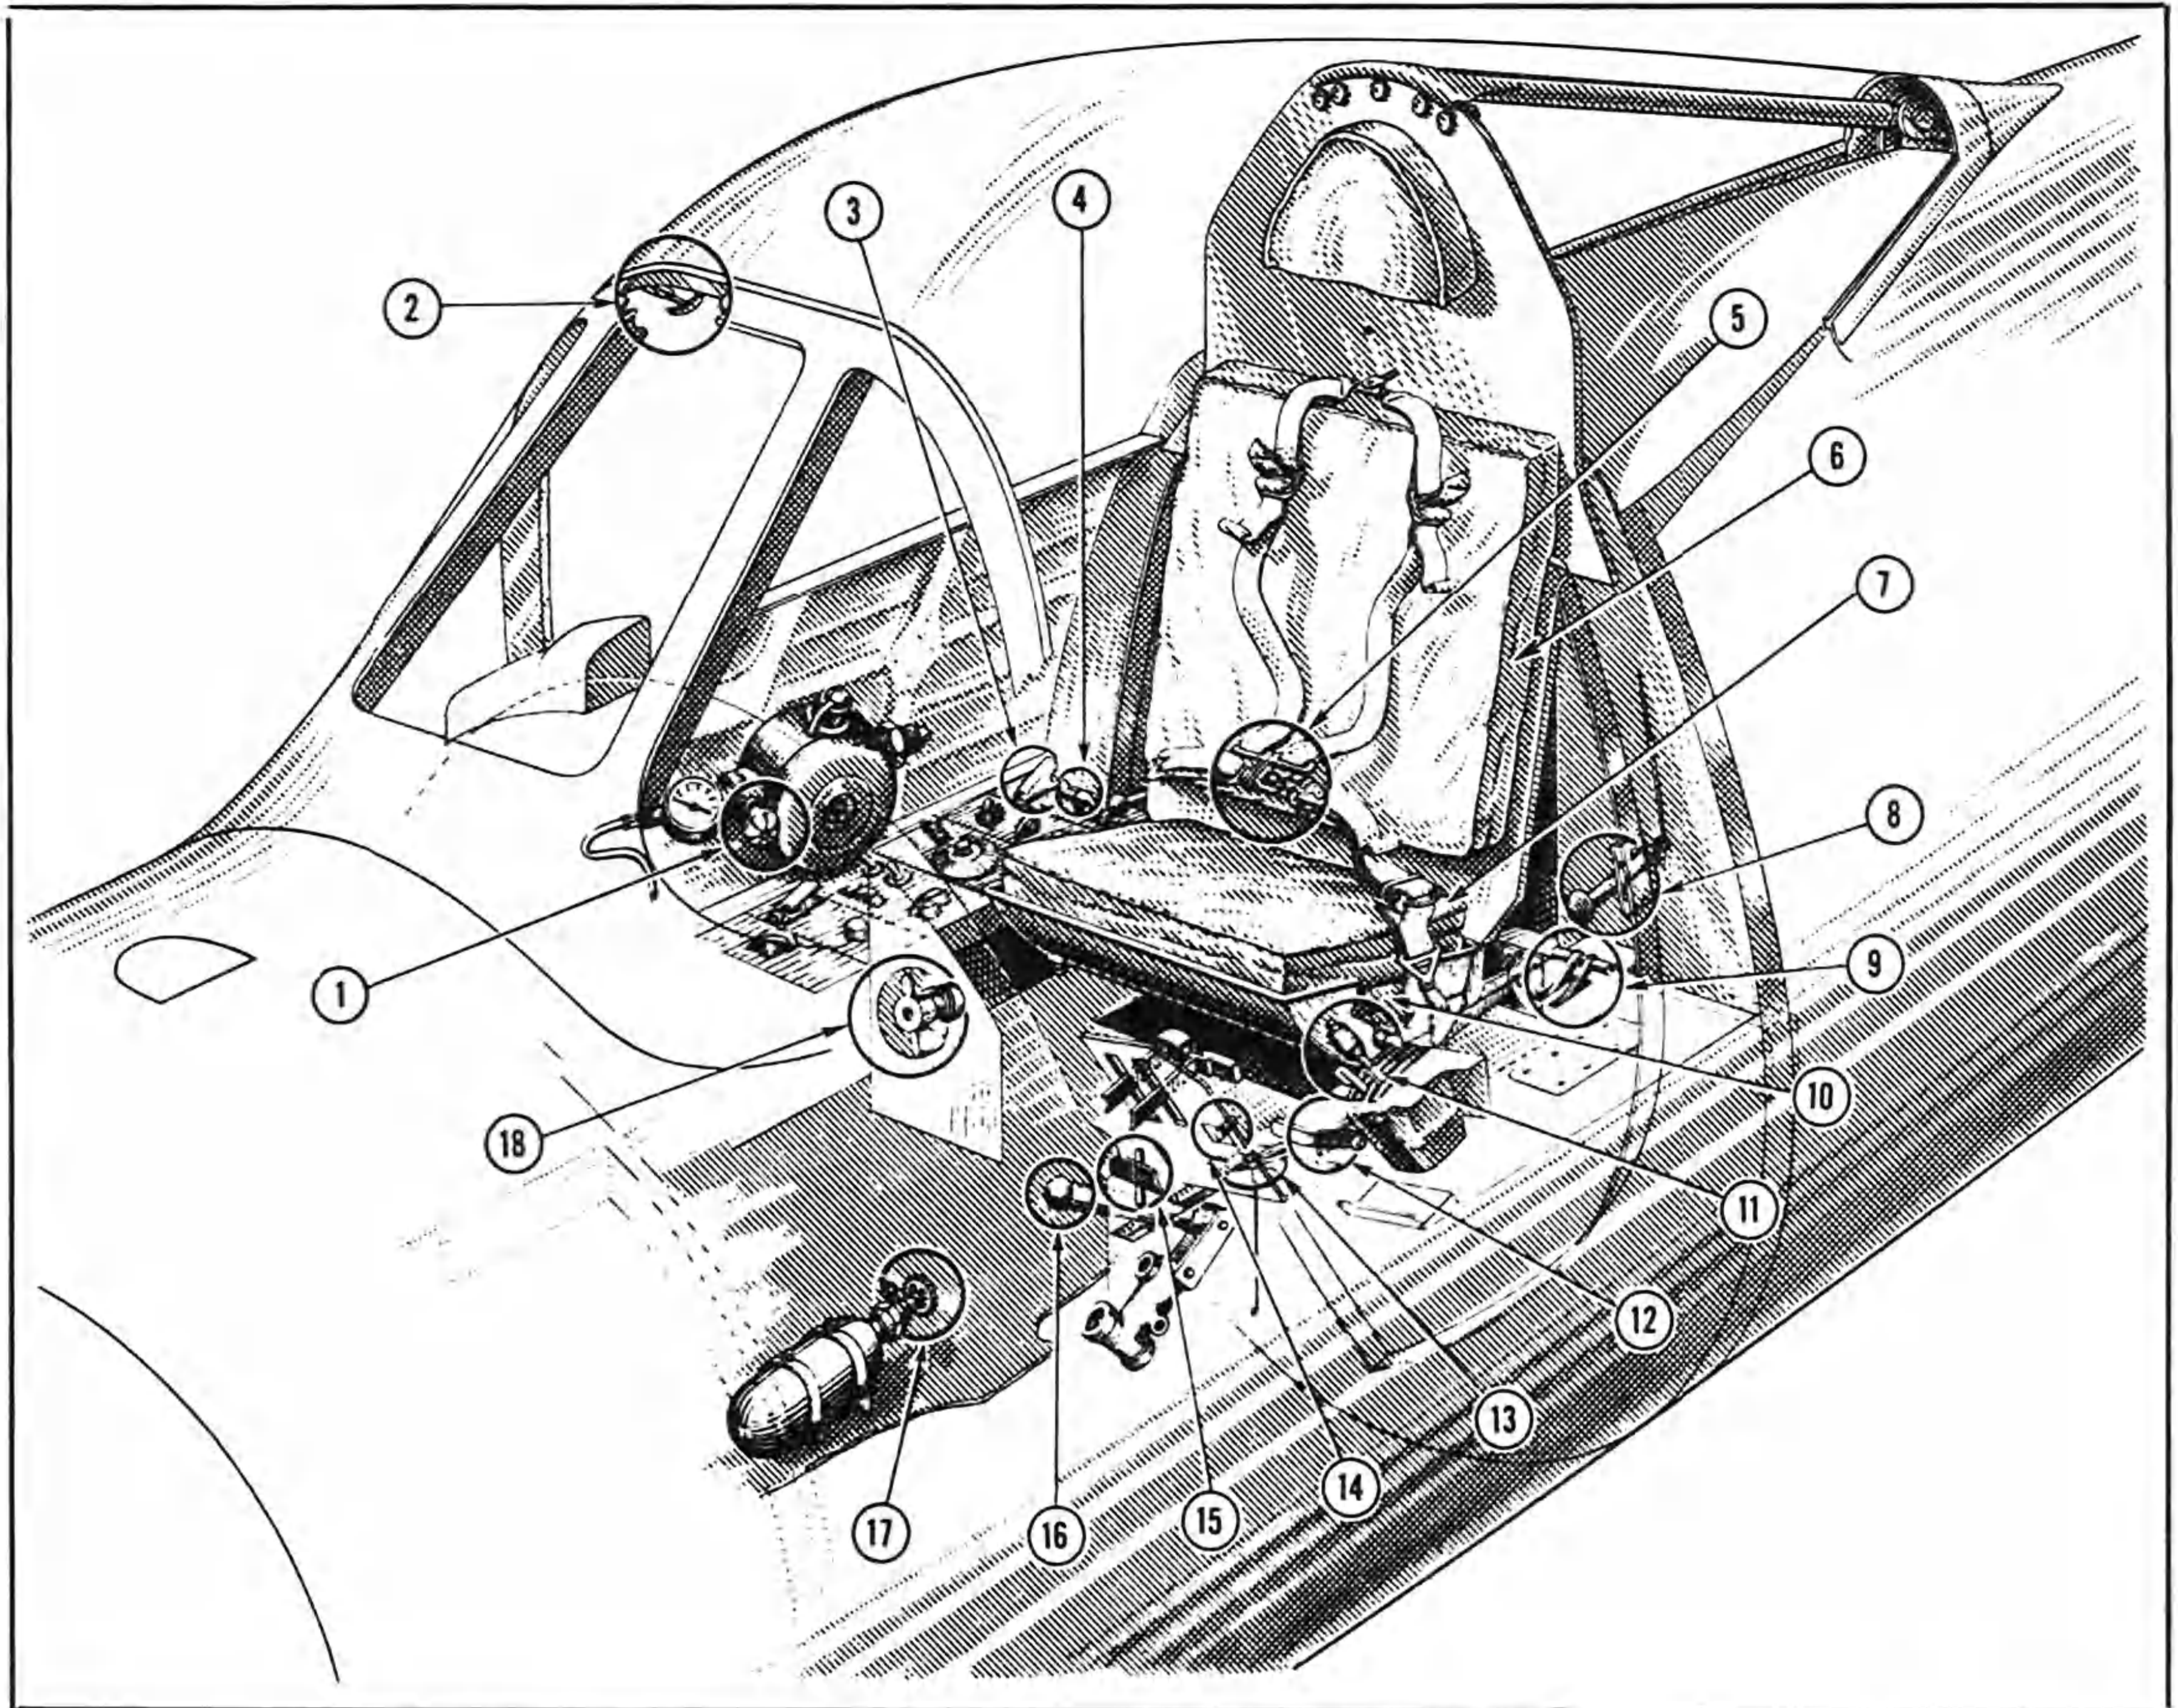

Figure 31 — Emergency Controls and Facilities
line, the trouble may be due to failure of the engine driven pump. In such case, with the hand pump selector valve at **HYDRAULIC SYSTEM** position (see 12, figure 31) the hand hydraulic pump can be used to supply operating pressure for any part of the system.
b. FAILURE DUE TO LOSS OF FLUID. — If combat or other condition has resulted in loss of hydraulic fluid, the hand pump selector valve should be shifted to **EMERGENCY WING FLAP**. (See 12, figure 31.) This reserves the remaining fluid for lowering of the wing flaps. This is accomplished by normal use of the flap control (see 2, figure 15) and then pumping the flaps down by hand.
the trouble, turn the fuel selector valve to **L. H. DROP STANDBY, RH DROP STANDBY, LH WING STANDBY, or RH WING STANDBY** as the tanks being carried, or the damage to the system, dictates. (See 13, figure 31.)
- (b) Turn ignition switch to **OFF**. (See 18, figure 31.)
(d) Jettison tanks or bombs by means of the release handles. (See 9, figure 31.)
(f) Make sure that the shoulder harness is locked to hold the shoulders firmly against the seat back. (See 8, figure 31.)
If the emergency landing has been made in unfriendly territory, the pilot should insure that the IFF equipment has been destroyed by throwing the emergency destructor switch before leaving his seat. (See 3, figure 31.) The force of the landing will probably already have tripped the inertia switch, and the use of the manual control is only a precautionary measure.